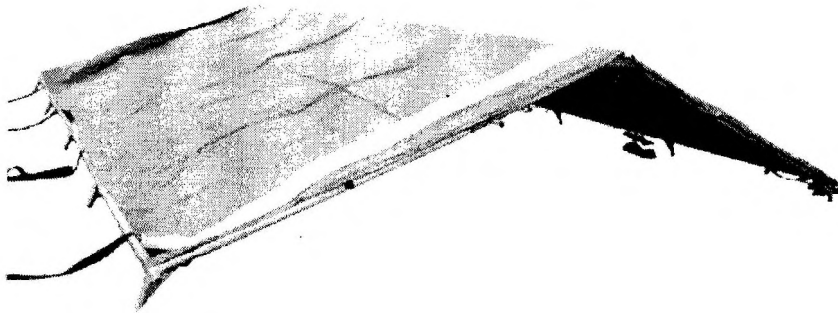

Figure 60: Roof frame with attached insulation panel
65. Lay the roof insulation panel, over the roof with white side facing inwards and loosely attach to the framework by the use of the tensioners, ensuring the ridge of the roof panel is aligned centrally Fig 60.